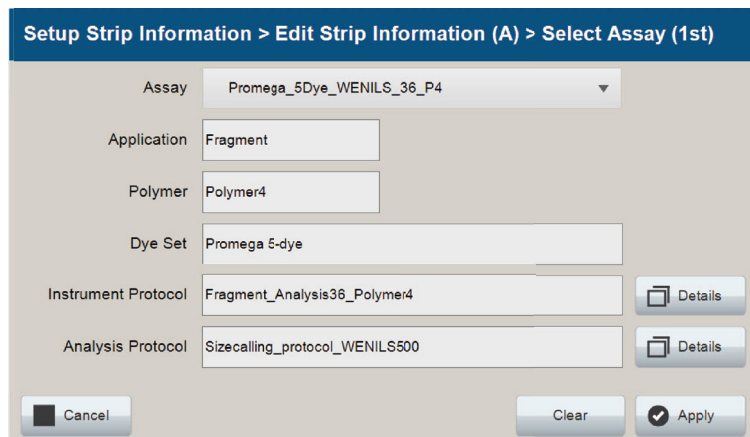
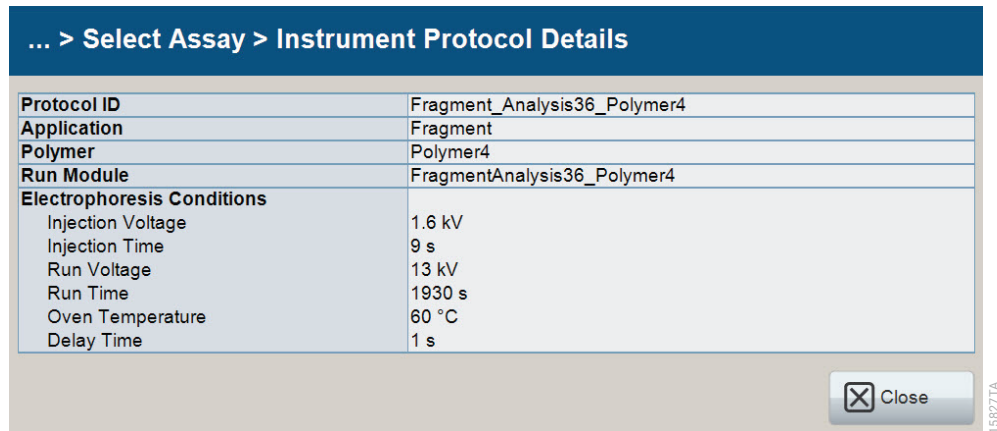
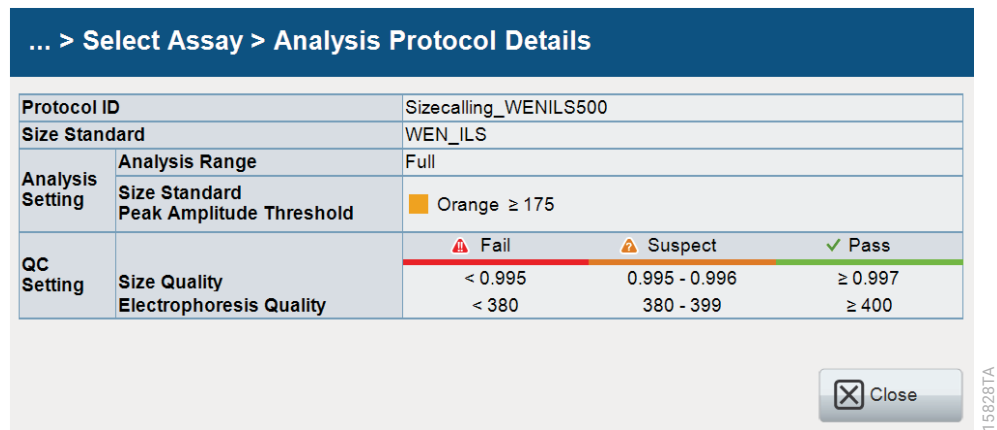

Figure 66. Accessing Instrument and Analysis Protocols on 'Select Assay' window.
Figure 67. 'Instrument Protocol Details' window.
Figure 68. 'Fragment Analysis Protocol Details' window.
- You can verify the settings of the Instrument and Analysis Protocols associated with the assay chosen by selecting **Details** next to these fields (Figure 66). This will display a window showing the settings in these protocols but will not allow you to edit these settings (Figure 67 and Figure 68). To edit the Instrument Protocol or Analysis Protocol, see Section 7. When the assay information is confirmed, select **Apply** to return to the 'Edit Strip Information' screen.